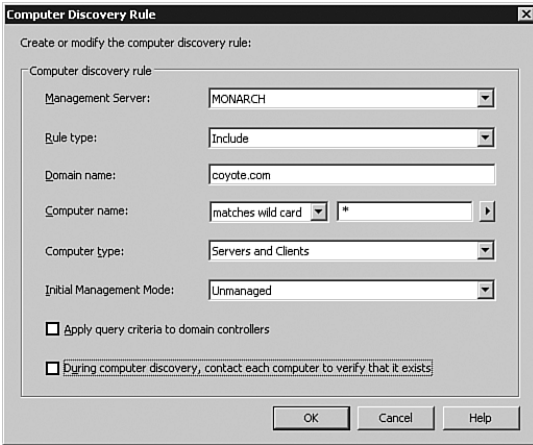

FIGURE 11.10 A discovery rule for nontrusted domain agents.
1. Verify that the management server can resolve the Internet Protocol (IP) addresses of the computers in the untrusted domains. This may require adding name resolution using a host file or Domain Name System (DNS).
2. Create a discovery rule (or rules) for the computers in the untrusted domain. Figure 11.10 shows a computer discovery rule to discover all computers in the Coyote.com domain.